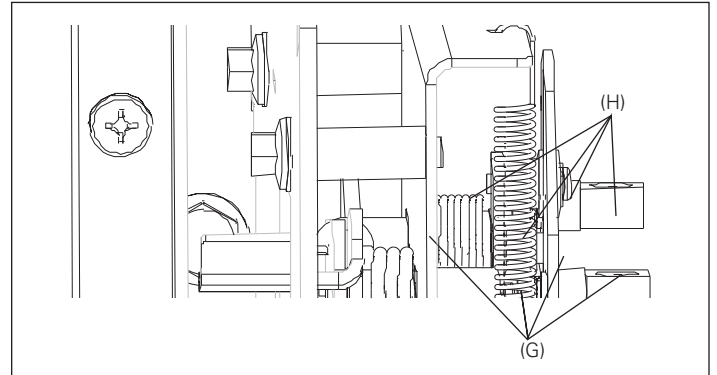

Figure 9. Details for Step 8
Fasten four cable brackets (G) to the right fixed mounting bracket (K) just below the interlock assembly (mounted in Steps 5, 6 and 7) using four M6 x 10 mm thread-forming screws (H) as shown in Figure 9. Torque to 7,3–9,6 N·m (65–85 in-lb).